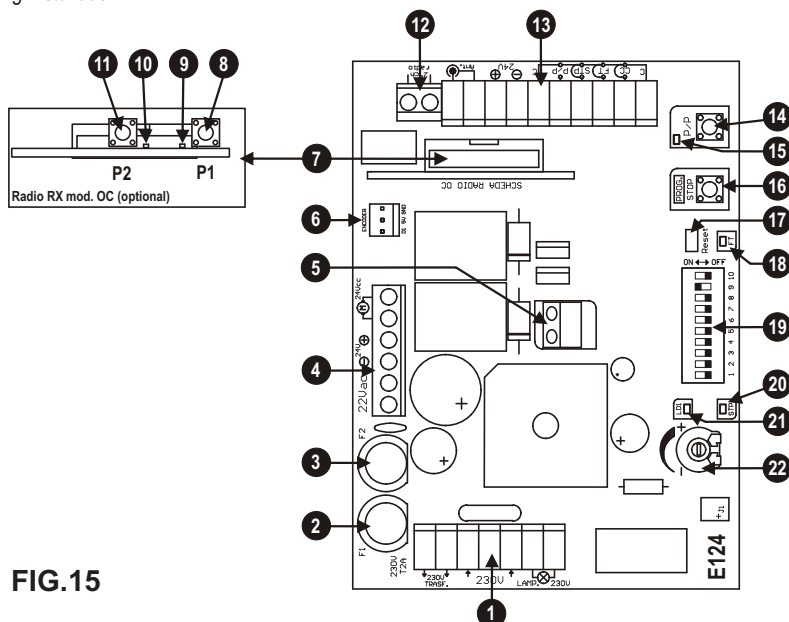
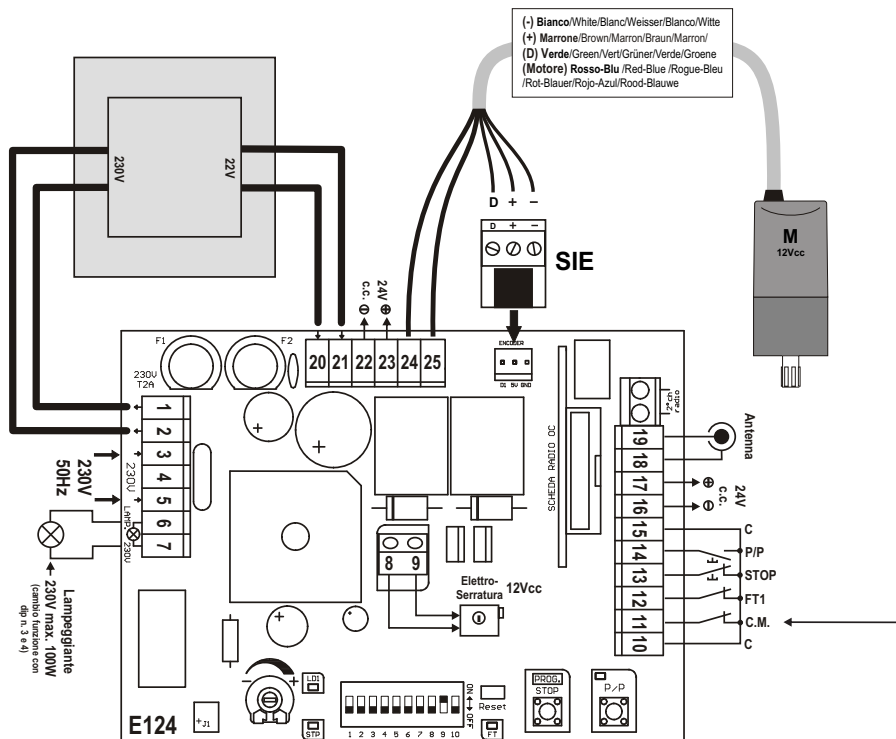

FIG.15
Fig. 16
Lleve a cabo los ensayos de impacto y modifique la velocidad de movimiento por medio del trimmer (detalle 22 Fig. 15).
- Conecte el receptor al conector (detalle 7 de fig. 15)
For connections, refer to tables 1 and 2 and figure 16.
During the self-learning phase, the key S/S is pressed repeatedly (14 in fig 15). Alternatively the S/S control can be used (terminal 14, fig. 16) or the radio transmitter memorised on the first channel of the receiver.
- 2- Press and hold PROG to reset, and use a screwdriver to short the Reset jumper (17 in fig. 15).